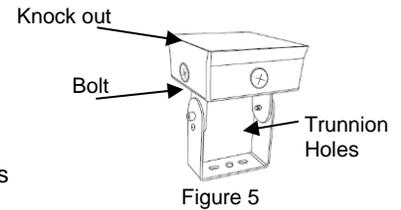

Figure 5
- Make electrical connection through appropriate knock out. (See Fig. 5) Connect the incoming electrical wires to the set of power wires black to black (hot), white to white (neutral) and green to green (ground). (See Wiring Diagram)
- Align trunnion holes (See Fig. 5) to surface and mount.
- To adjust the aiming angle of the trunnion, loosen bolts (See Fig. 5) on both sides of trunnion mount and adjust to desired angle. Tighten bolts to secure trunnion in desired position.